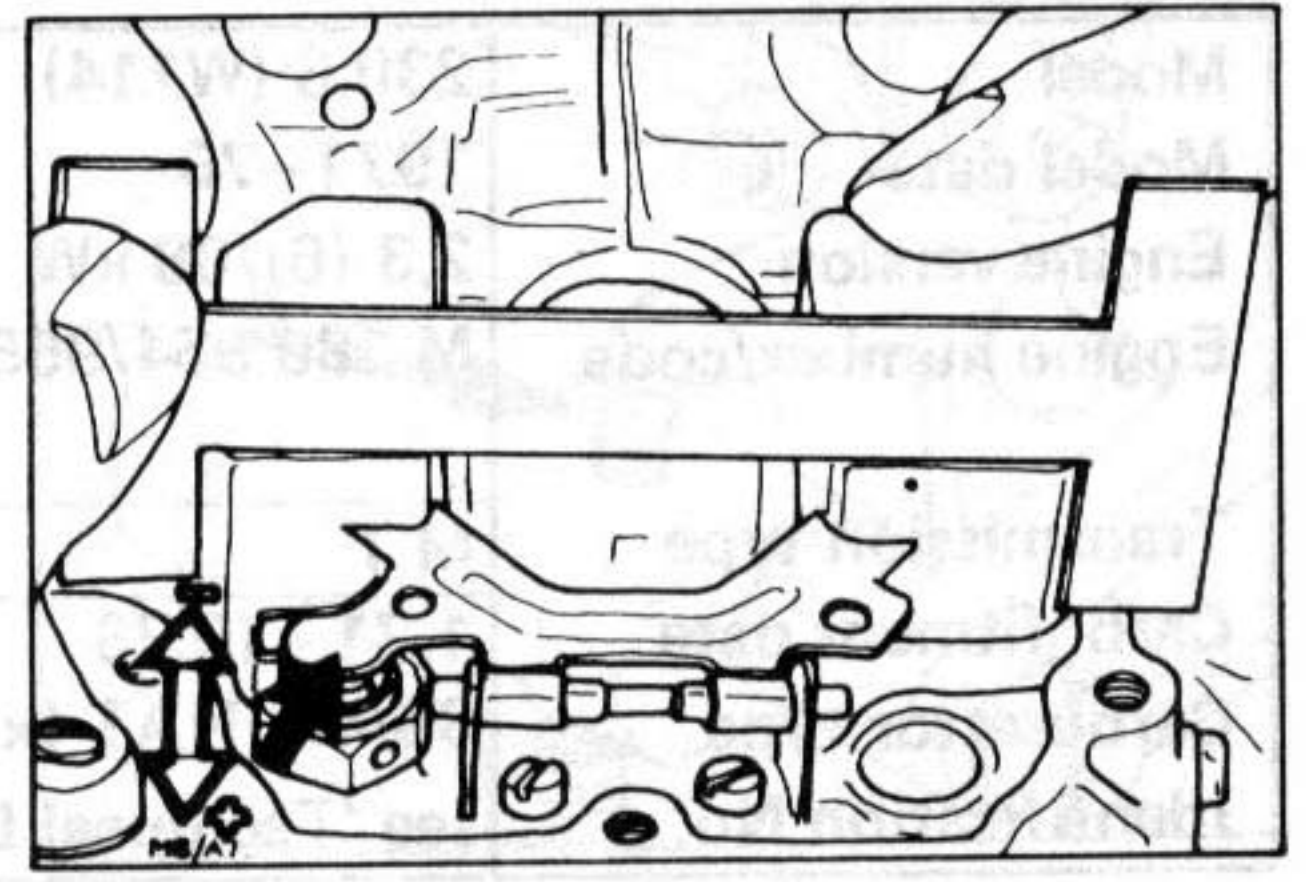

Fig. 8 Float level adjustment
- d) Measure distance from highest point of floats to housing surface (Fig. 8).